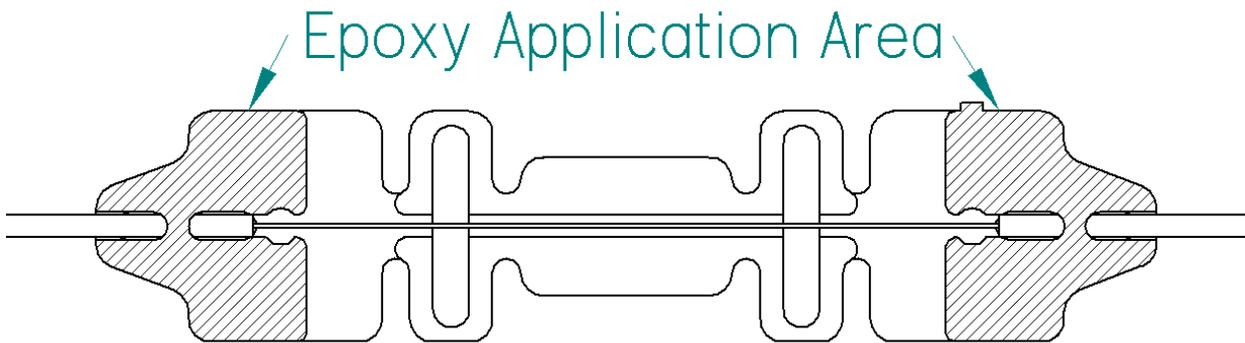

Figure 2 – Gage Bottom View
Lay the gage on a clean surface with the bottom surface facing up. Thoroughly degrease epoxy application area as shown in Fig. 2 using CSM Degreaser. Isopropyl alcohol may be substituted for CSM if desired; however, it may not be as effective in removing all traces of contaminants. CSM Degreaser is preferred whenever possible. Apply a liberal amount of degreaser to clean gauze and wipe the gage. Do not spray the degreaser directly onto the gage.
- 3.1. Mix epoxy with curing agent as specified in instructions included with epoxy. Apply a thin film of epoxy to the epoxy application area as shown in Fig. 2. Be careful not to allow epoxy to come in contact with other areas of the gage. Using the layout lines previously burnished on the specimen, position the gage on the specimen surface. Cellophane tape may be used to hold gage in position until clamp is applied. Place a strip of polyethylene film over the sensor to prevent any epoxy that is squeezed out from under the gage from adhering to the clamp pad.